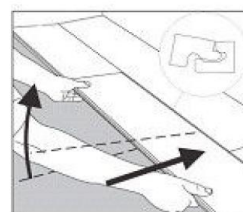

Figure 3
- Begin the second row with the cut piece from the first row (Figure 3). If the cut piece is shorter than 20 cm (8 in), do not use it. Instead, begin with a new plank that is at least 20 cm in length and allows 20 cm between the end joints on the adjacent planks.
- Install the remaining planks and rows in the same manner (**Figures 3 & 4**).